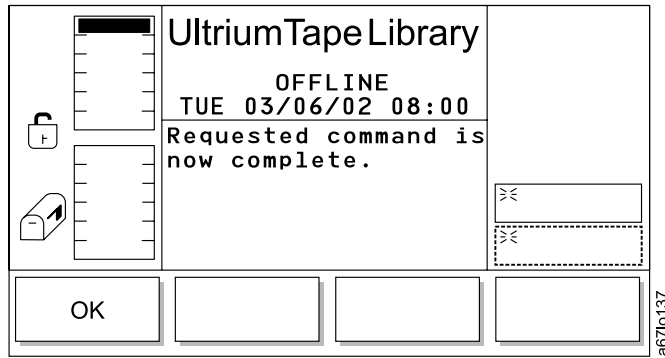

Figure 48. Command Complete screen
- e. Select **OK**, and the FAST Read/Write Test begins. The operator panel displays the message **Currently loading the cartridge**, then **Diagnostic now in progress**, then **Currently unloading the cartridge**. When the test is complete, the Command Complete screen displays (see Figure 48).